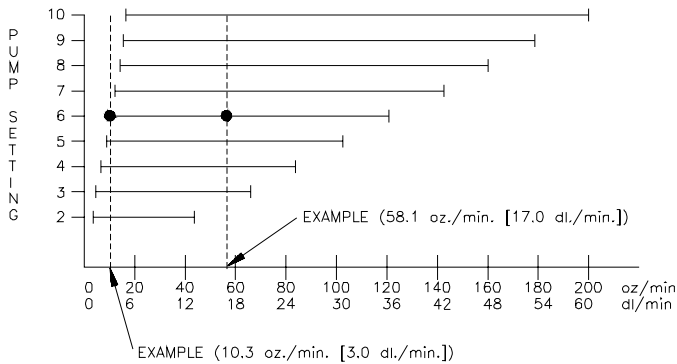
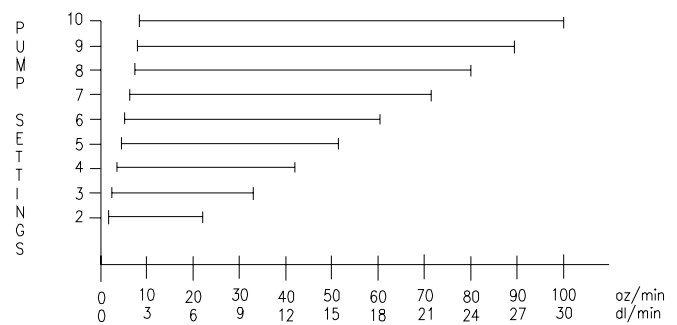
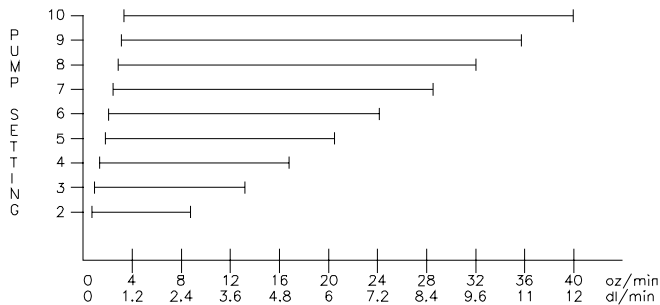

FIGURE 12A
FIGURE 12B
FIGURE 12C
The following procedure calculates the correct Pump Setting for Injection Pump. The High Volume Injection Module has an output range of 2.5 to 200 oz/min, use Figure 12A. The Low Volume Injection Module has an output range of 1.0 to 100 oz/min, use Figure 12B. The Ultra Low Volume Injection Module has an output range of .5 to 40 oz/min, use Figure 12C.
- 2) Locate the calculated MAXIMUM and MINIMUM oz/min [dl/min] on the horizontal line of Pump Chart. (See Figures 12A, 12B & 12C).